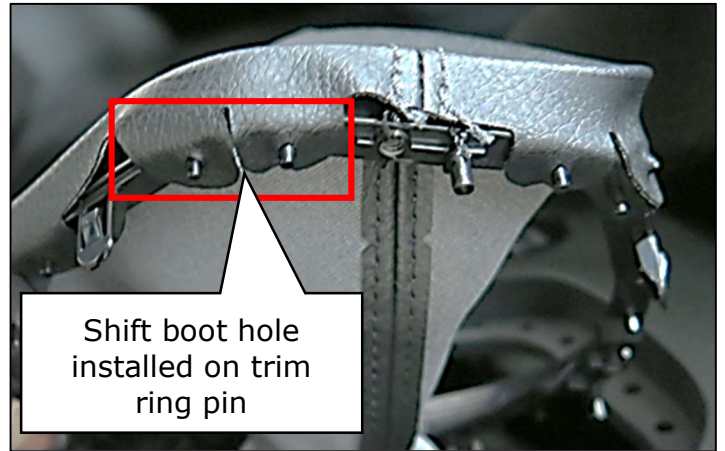

Figure 46
41. Carefully install the shift boot over the trim ring. (Figure 46)
- Align the shift boot holes with the trim ring pins as shown in Figure 46